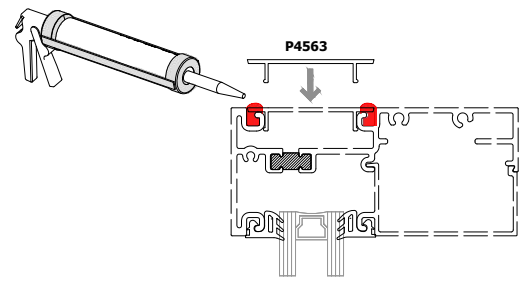

FIG. 1
- Install **P4563 Pocket Filler** at all sides. See **FIG. 1**